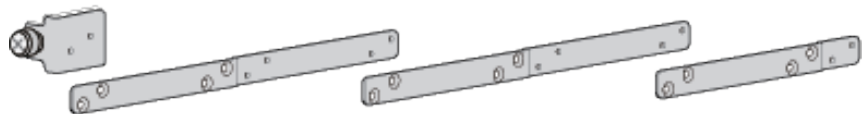

Figure 111. Extension Bracket Configurations
You adjust the lengths of the brackets by connecting them in different combinations. There are seven possible configurations. Refer to Figure 111. The default configuration is number 5. To adjust the extension brackets, perform the following procedure:
1. Review Figure 111 to find the bracket length that most closely matches the measurement taken in step 3 in the previous procedure.